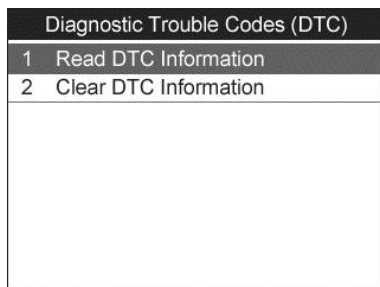

Figure 11.27
- 2) Use the **UP/DOWN** scroll button to select **Read DTC Information** and press the **OK** button. (Figure 11.27)
- 2) Use the **UP/DOWN** scroll button to select **Clear DTC Information** and press the **OK** button. (Figure 11.27)